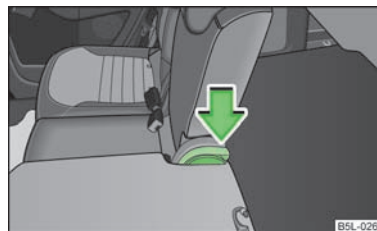

Fig. 53
- Press the lever » Fig. 53 and fold back the seat backrest. Check for yourself that the seat backrest is engaged by pulling on it.